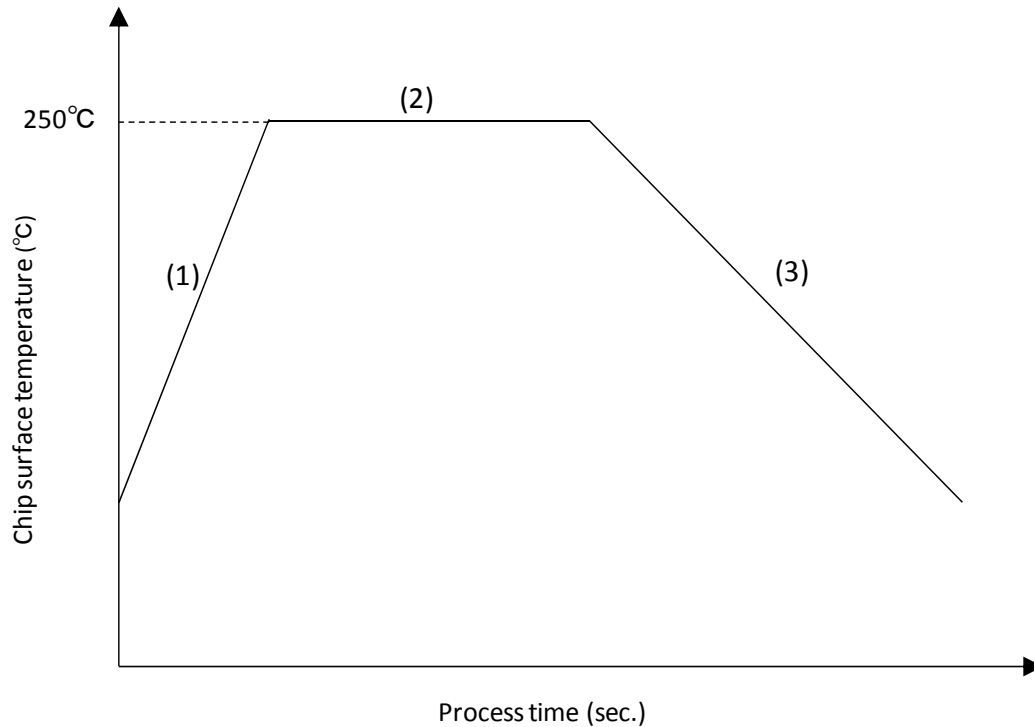

Figure 8-1: Temperature profile for bonding
Figure 8-1 shows the temperature profile for bonding RC-S966.
(3) Cooling rate	Allowable maximum fall speed of chip surface temperature during chip bonding	-200	°C/s
- Heating rate : Heat quantity (time x temperature) must be below the heating condition illustrated in Figure 8-1.
- Cooling rate : The drop in heat (time x temperature) must be below the cooling condition illustrated in Figure 8-1.